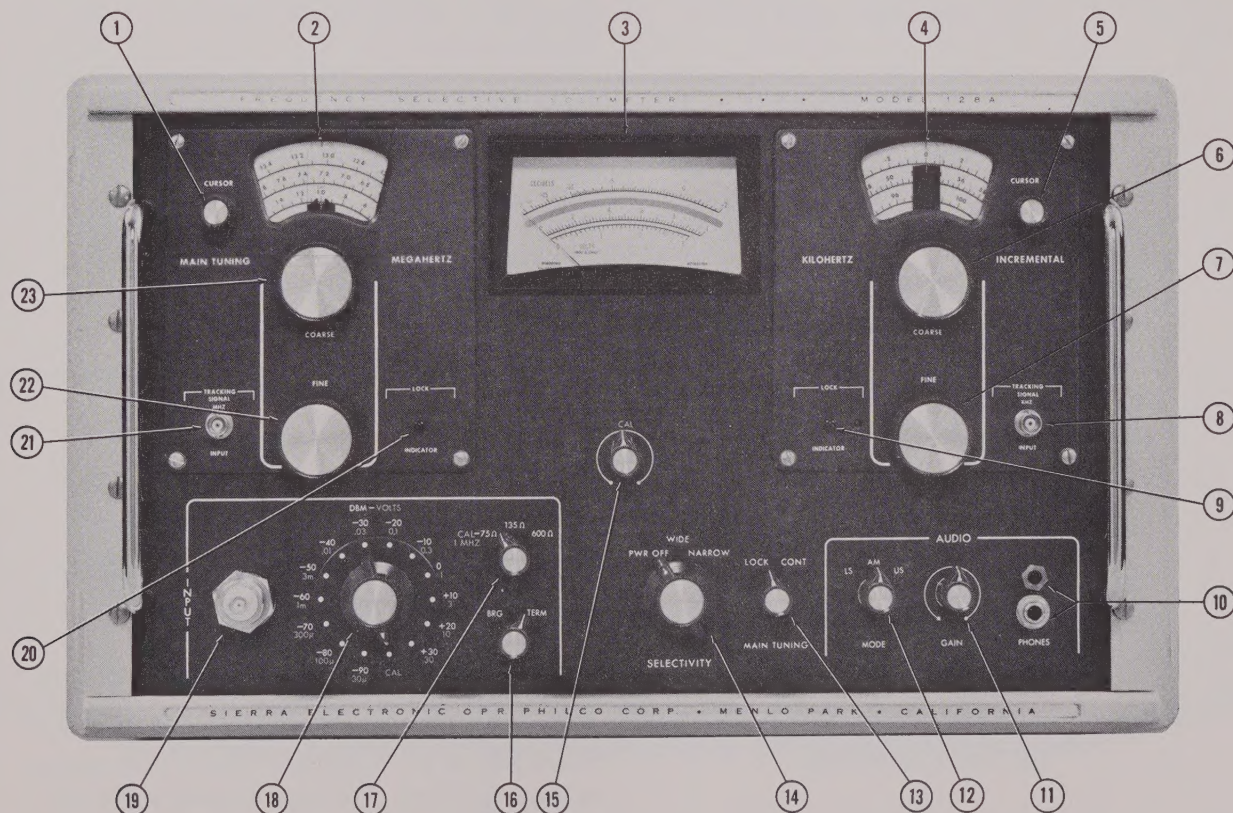
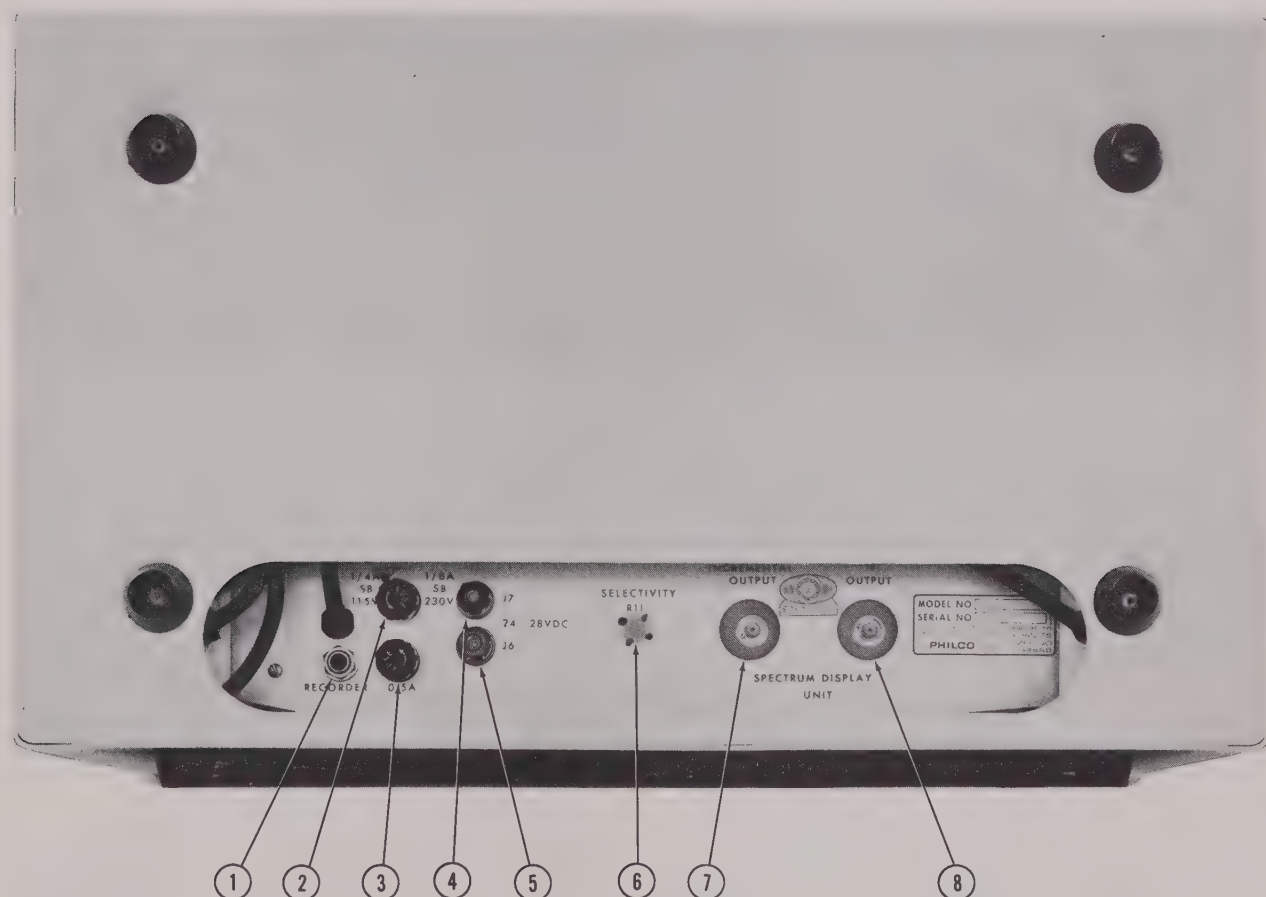

Figure 2-1. Sierra 128A Front Panel Controls and Indicators
Figure 2-2. Sierra 128A Rear Panel Connectors and Fuses
2.03 Front panel controls and indicators are shown in Figure 2-1 and identified in Table 2-1. Rear panel connectors and fuses are shown in Figure 2-2 and identified in Table 2-2.